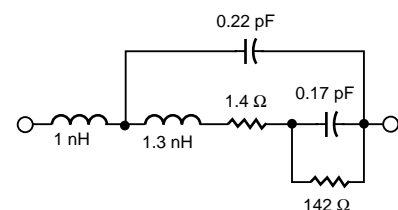
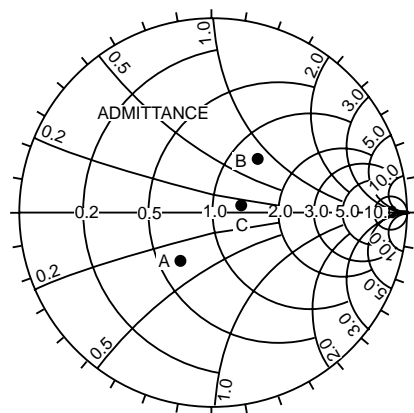

Figure 2. Diode Equivalent Circuit
Figure 3. Diode Matching
The diode equivalent circuit is shown in Figure 2. At 12 GHz S_{11} is 0.486, 41.8° for 2.5 mA rectified current. This corresponds to $0.57-j0.45$ admittance normalized to 70 ohms. Figure 3 shows how a 0.273 wavelength series line transforms this admittance (A) to the 1.4 (50 ohm) conductance circle (B). The susceptance is 0.96. The 70 ohm shunt open line provides the 0.96 negative susceptance needed to complete the match (C). The electrical length is: